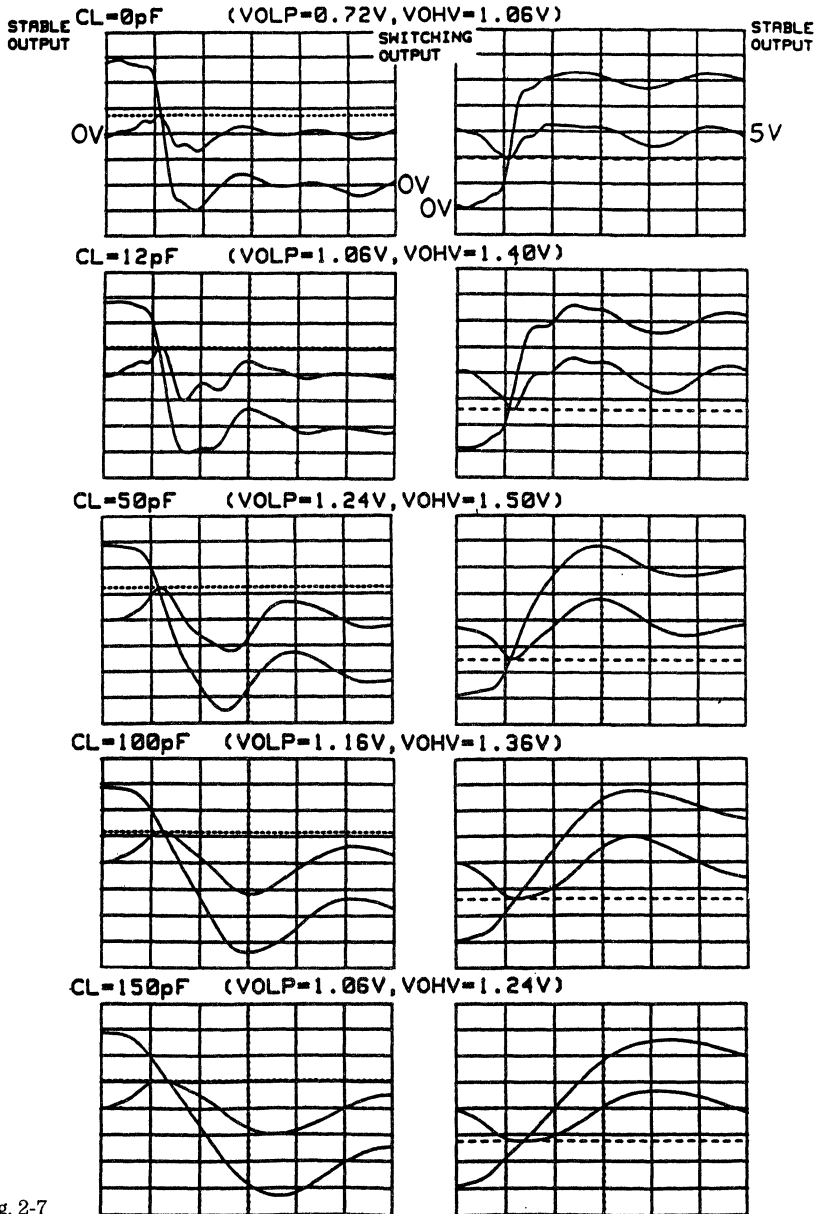

Fig. 2-7
The results of Toshiba's capacitance dependence tests are shown in fig. 2-7. The device tested was a TC74AC244P. The test was conducted at load capacitances of 0pF, 12pF, 50pF, 100pF and 150pF. A 100pF load capacitance (CL) will reduce ground bounce voltage when compared to a 50pF capacitance. This is due to the fact that CL acts as a filter.